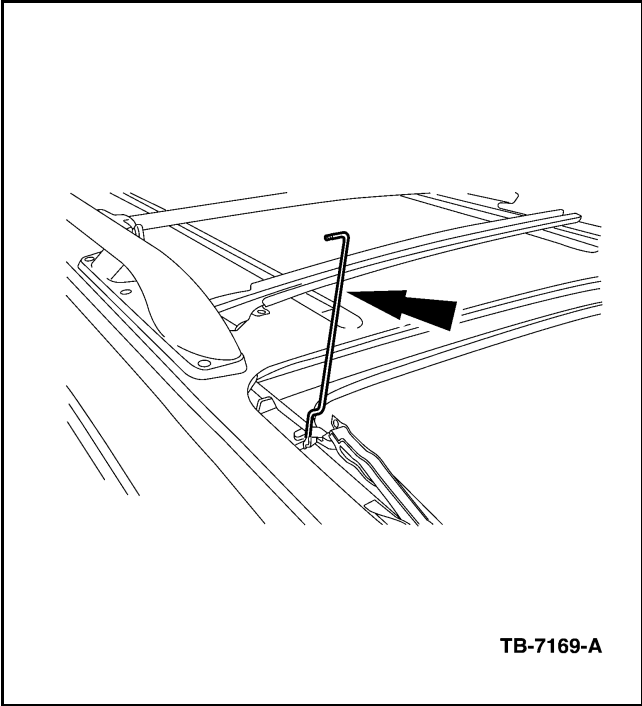

Figure 3 - Article 03-11-10
4. Disconnect the trough guide wire from the moonroof lifter arm mechanism on either side (Figure 3).